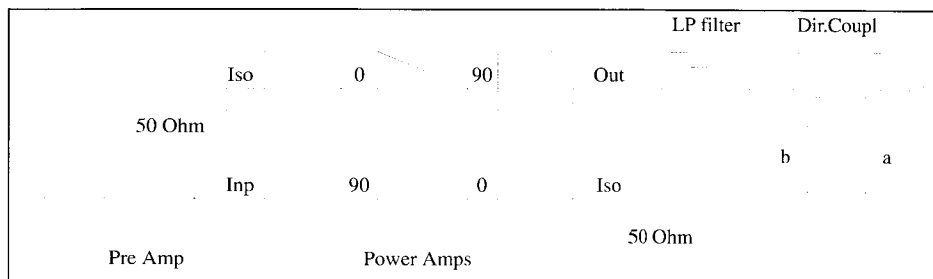

Figure 1. Principle of a 350 Watt quadrature combined power amplifier.
500-watt Gemini package intended for push-pull operation are available from various companies. The TP1940 from Motorola (4) seems to have good performance combined with low price. It is around this transistor that the balanced power amplifier and the block diagram of Figure 1 are designed.